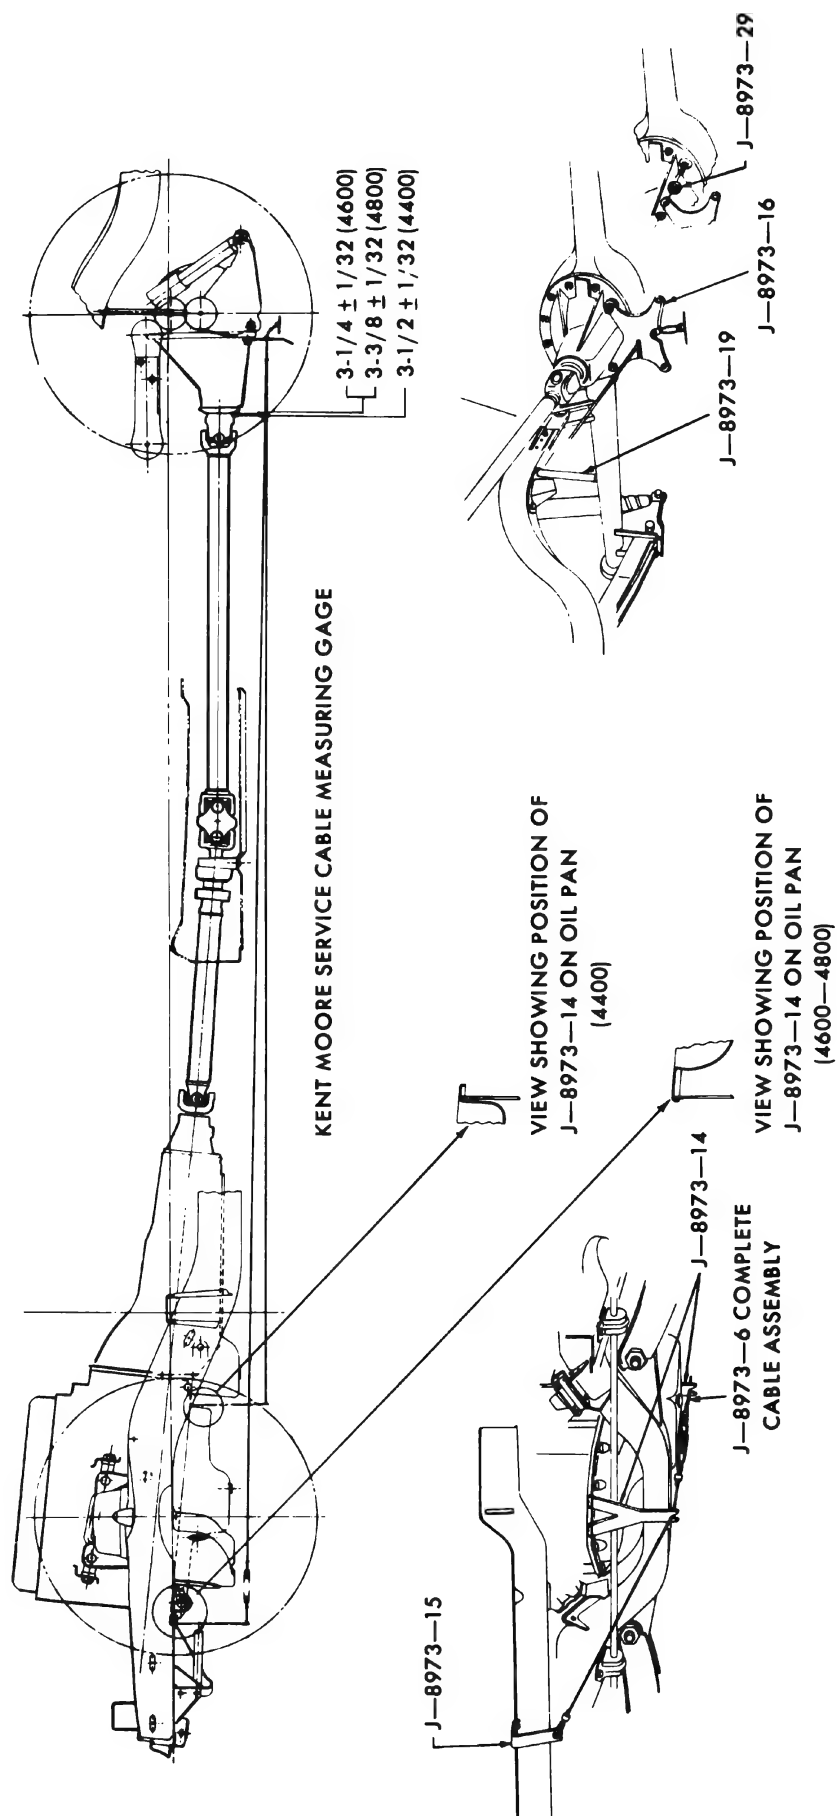

Figure 6-73—Checking Rear Universal Joint Angle—4400-4600-4800 Series
angle is adjusted correctly, this steel cable will clear the underside of the pinion flange by a definite amount. Therefore, if this single direct measurement is within specified limits, the rear universal joint angle is correct; if this measurement is out of limits, the joint angle is not correct. See Figure 6-73.
1. Raise car, preferably on a drive-on hoist. Install Alignment Height Tubes J-8973-19 by raising the rear of the body slightly with one hand while inserting the upper end of the tube over the head of the axle bumper rear bolt, with the lower end resting on the axle housing. See Figure 6-73. If the body does not come down firmly on the tubes, add weight in the trunk until the tubes are held tightly.
nuts just removed. See Figure 6-73.
4. Position Engine Height Plate J-8973-14 vertically with wide end centered against front flange of engine pan. Pull cable down and place in lower notch of plate. See Figure 6-73.
5. Measure perpendicular distance from machined surface immediately in front of slinger on rear pinion flange to top of cable. This distance is given for 44-46-4800 models in Figure 6-73.